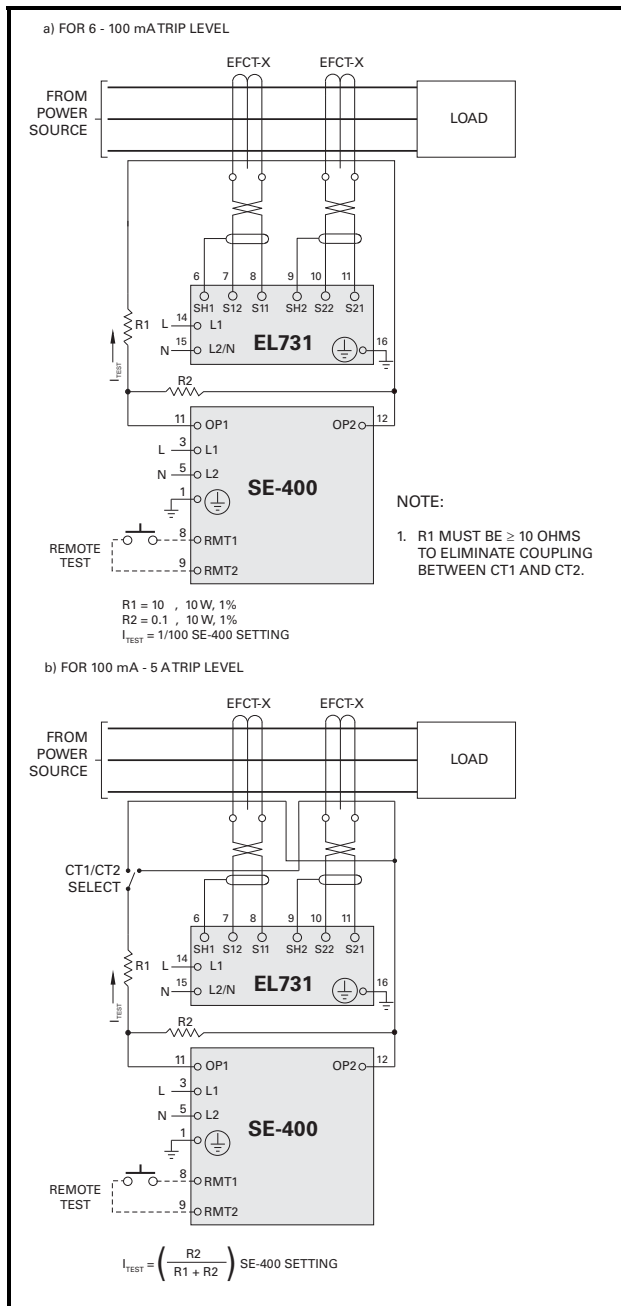

FIGURE 13. Earth-Fault-Test Circuit.
- d) Verify proper reaction of the circuit-interrupting device in response to a simulated or controlled earth-fault current. To simulate earth-fault current, use CT-primary current injection. Fig. 13 shows a test circuit using an SE-400 Ground-Fault-Relay Test Unit. The SE-400 has a programmable output of 0.5 to 9.9 A for a duration of 0.1 to 9.9 seconds. Fig. 13 shows two possible test configurations. Resistors can be used to reduce the injected current from the SE-400. Set the test current to 120% of the EL731 setting. Inject the test current through the current-sensor window. Verify that the circuit under test has reacted properly. Correct any problems and re-test until the proper reaction is verified.